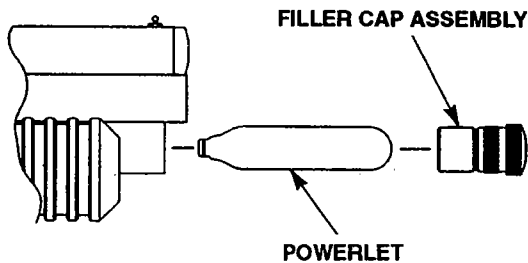

FIG. 2
- Insert the new CO2 cylinder into the paint ball gun with the small neck of the cylinder into the action tube first. (Fig. 2).